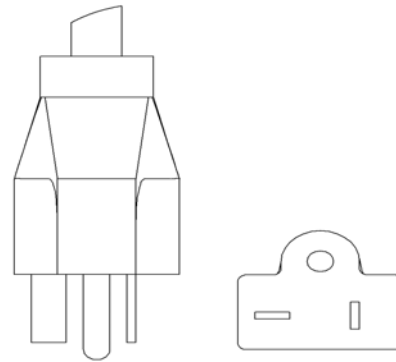

Figure 2-2 Electrical Plug
- F. Connect the power cord to the proper power supply. The plug is designed for 115 volt/20 amp duty. Check the nameplate on your freezer for proper supply. The unit must be connected to a properly grounded receptacle. The electrical cord furnished as part of the freezer has a three prong grounding type plug. The use of an extension cord is not recommended, if necessary use one with a size 12 gauge or heavier with ground wire. Do not use an adapter to bypass grounding requirement. (Refer to Figure 2-2)